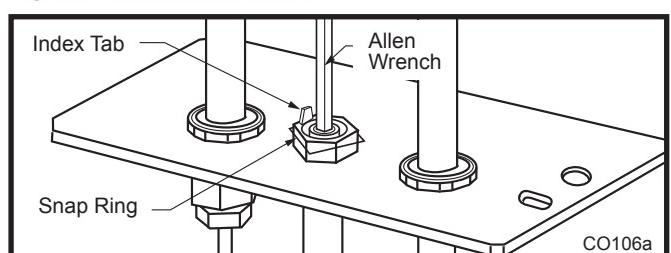

Fig. 81 Remove pilot orifice.
- Remove pilot orifice with allen wrench. (Fig. 81)